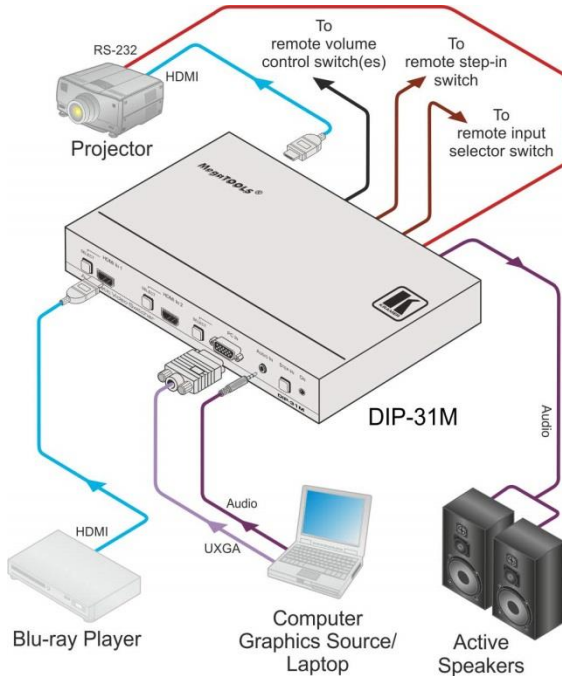

Figure 3: Connecting the DIP-31M
To connect the DIP-31M as illustrated in Figure 3:
10. Connect the power adapter to the **DIP-31M** and to the mains power, (not shown in Figure 3).